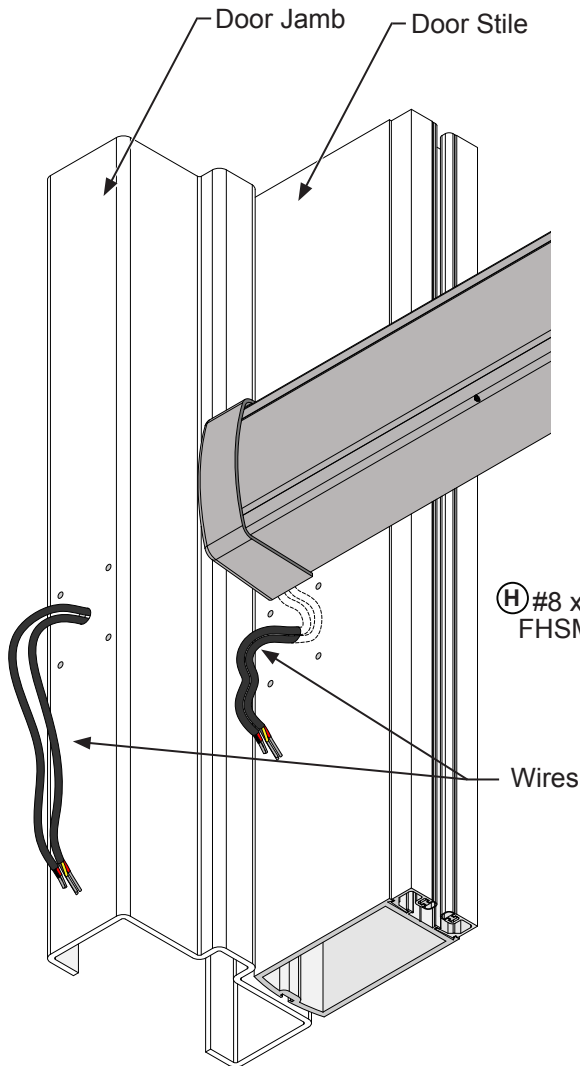
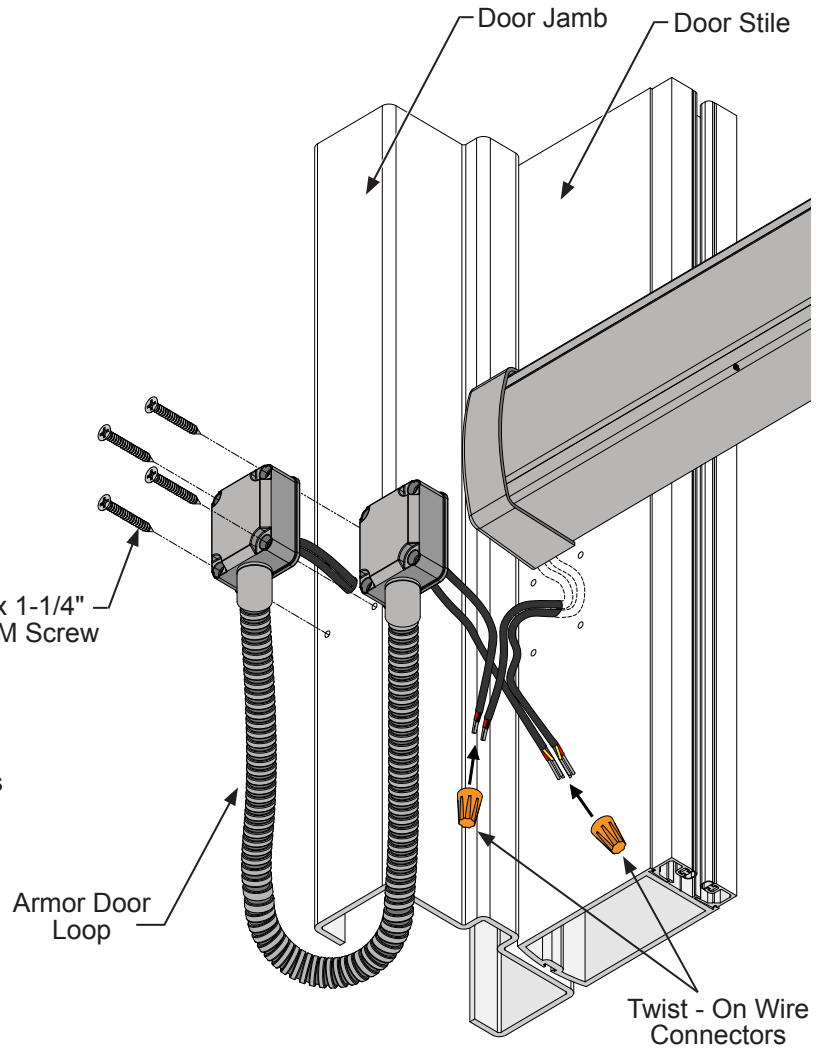

FIG. 27
FIG. 28
[Once the wires are properly attached to the power supply you need to feed the wires through the 5/16" Dia. hole on the non-active door jamb. **(Fig. 27)**]
After preparing non-active door jamb shown. **(Fig.19, Page 16)** Route the wires through the the hole on the door jamb. **(Fig. 27)** Next feed the wires through the Armored Door Loop, and secure the Armored Door Loop to the door jamb using **(H)** (4) #8 x 1-1/4" FHSMs. **(Fig. 28)**
Once you have secured the Armored Door Loop connect the wires from the Armored Door Loop to the exit device wires using Twist-On Wire connectors. **(Fig.28)**